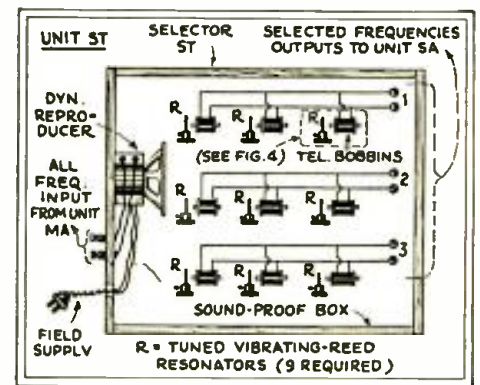

Fig. 3
The output of the "mike" amplifier (MA, Fig. 2) is connected directly to the voice coil of a small dynamic reproducer, mounted within a sound-proof wooden box (ST) containing nine differently tuned vibrator reeds. There are nine electromagnets, one in front of each vibrator reed; three of them being connected in parallel on each of the three electrical circuits, as shown in Fig. 3.